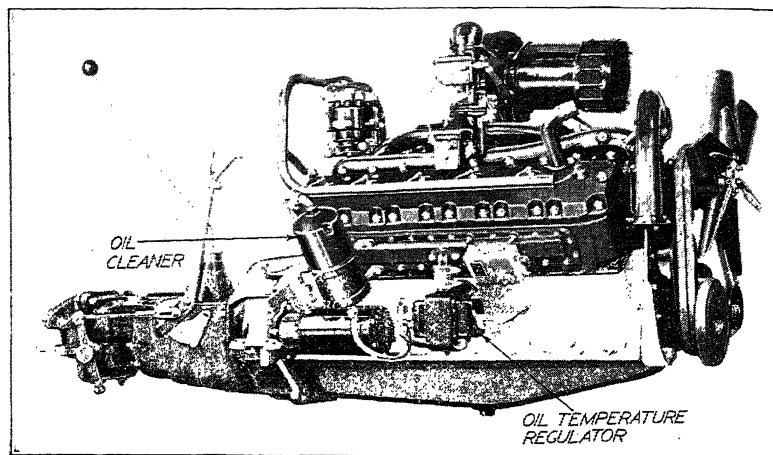

Fig. 24. Pierce-Arrow 12-Cylinder 175-Horsepower Engine, Showing Oil Cleaner and Oil Temperature Regulator
**Oil Cleaners or Filters.** Fig. 24 shows an oil cleaner mounted on the side of a Pierce-Arrow engine. These cleaners may be mounted at any position about the engine or engine compartment. As a rule they are so arranged that a portion of the oil which is picked up by the pump is sent through the